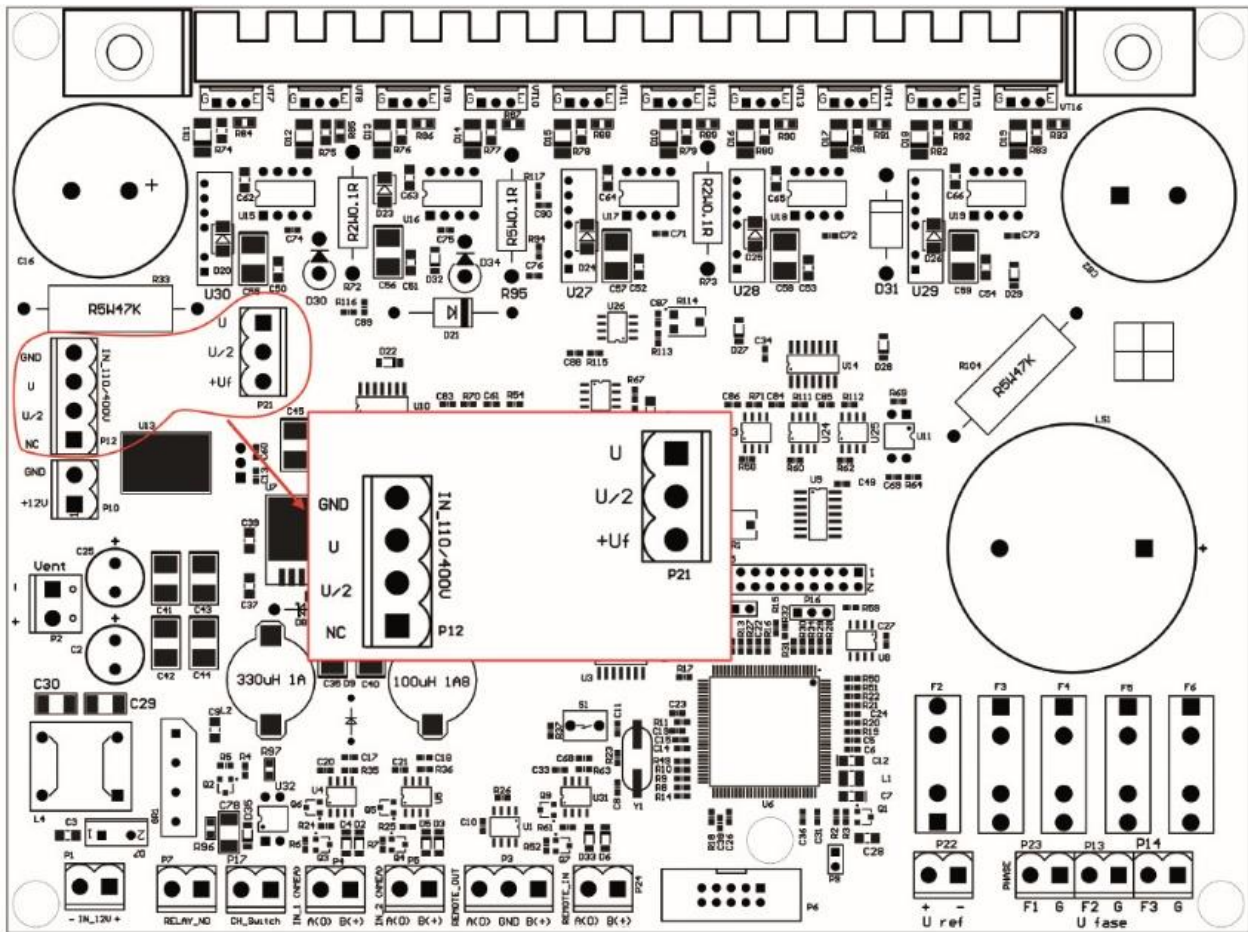

Figure 6 – Terminals blocks P12 and P21
a) select connection diagram of internal power cable to terminal block (P12) and set a jumper in the terminal block (P21), see Figure 6.